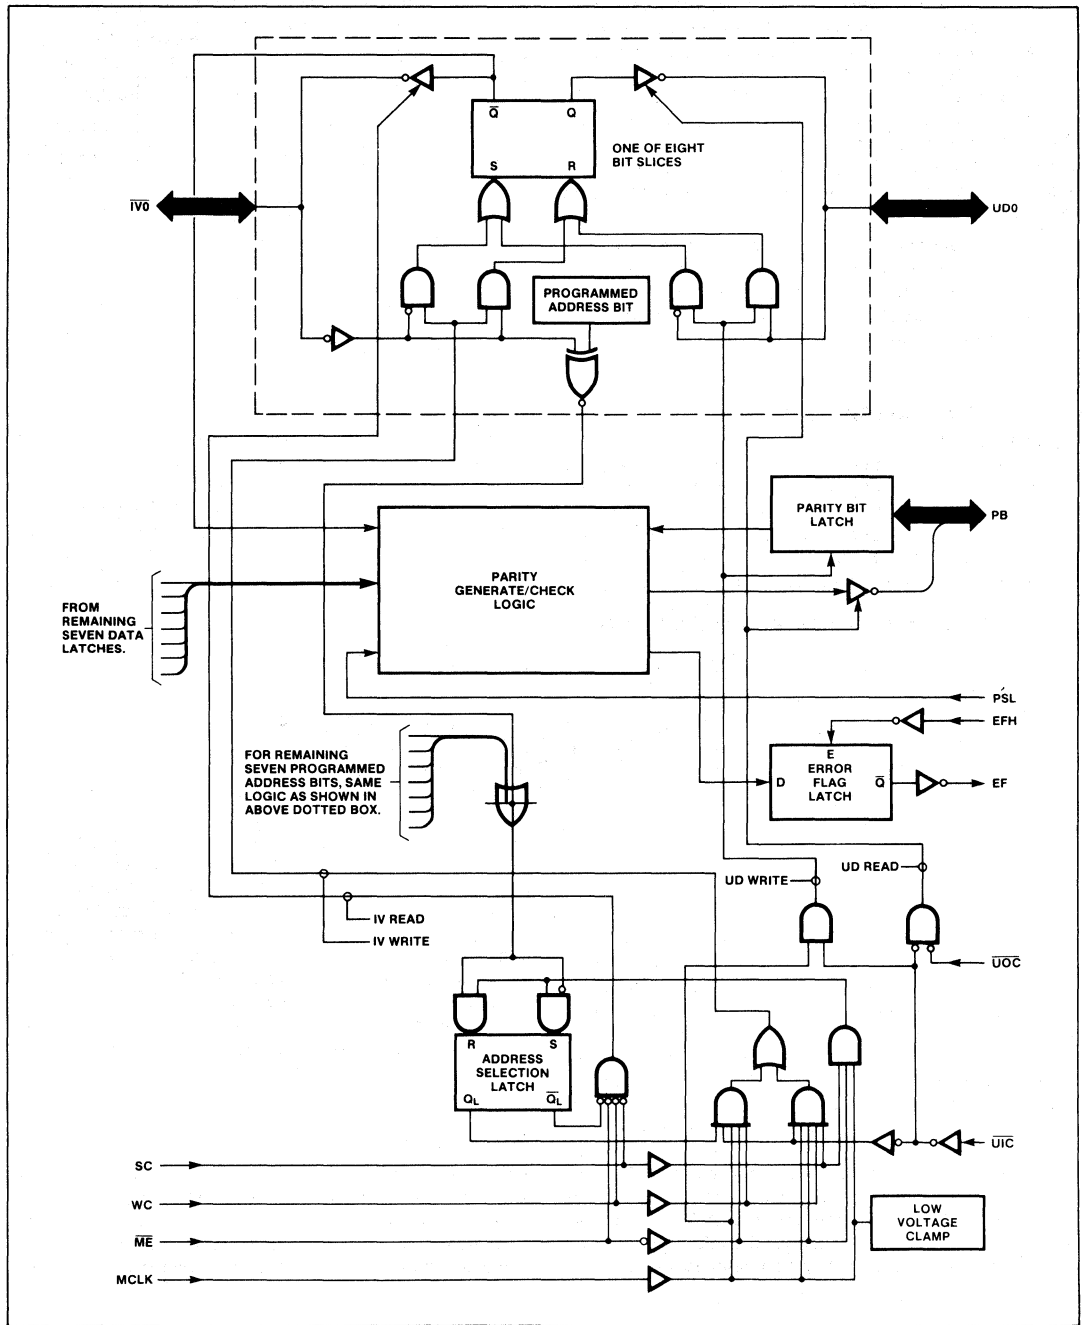

Figure 1. Logic Diagram for 8X374 I/O Port
The Parity Bit (PB) pin provides both parity-generate and parity-check capabilities according to user data bus controls. With UIC low (active), a parity check is performed on the input data stream; with UOC low (active) and UIC high, the 8X374 generates the parity-bit for the output data stream. The user can select odd or even parity via the Parity SeLect (PSL) input control, 1 = even parity and 0 = odd parity. As data and parity are input to the data latches and the parity-bit latch from the UD bus and PB line (Figure 1), parity errors (if any) are continuously detected by the parity-check logic. Parity error status enters the error flag latch (if enabled) and appears at the EF output pin. The error latch can be strobed by the Error Flag Hold (EFH) control to latch in valid error status; otherwise, the error flag is transparent to the user. (Note: If the system uses less than eight data bits, keeping zeros in unused data latches preserves proper parity operation.)